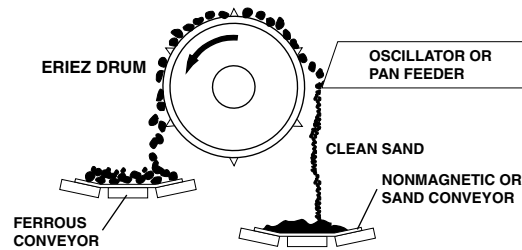

FIGURE 6
- Feed to the side of the drum as shown in Figure 6.